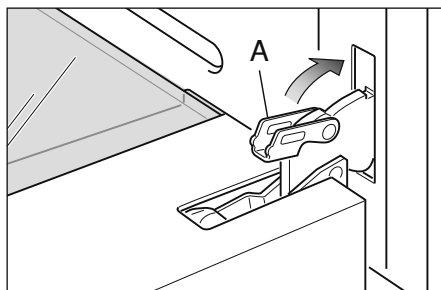

Fig.38d
- 4 Unlock the oven door by opening it completely and closing the lever "A" on the left and right hinges (Fig. 38d).